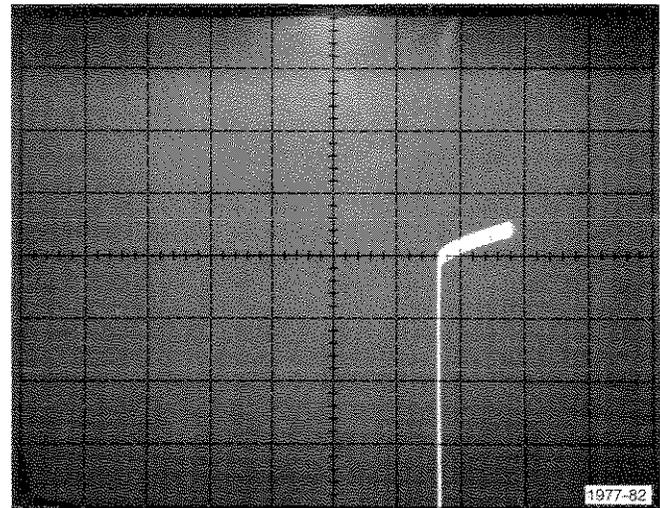

Fig. H-3. Typical display of power supply rejection ratio measurement.
a. Press the DISPLAY—ZERO pushbutton. Turn the SWEEP AMPLITUDE control clockwise until the trace goes down off-screen (see Fig. H-3).